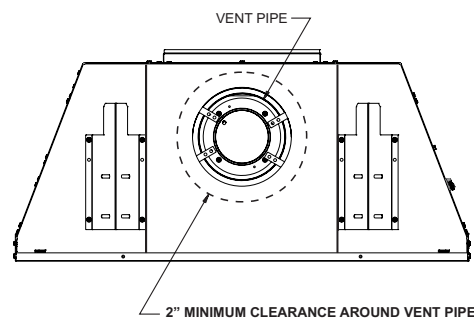

Figure 27
**Note:** Maintain two inches of clearance around vertical vent pipe on first 12". **See Figure 27.**